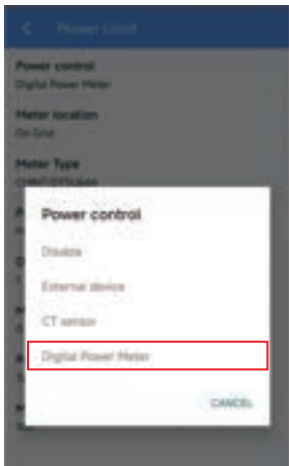

Figure 4-6 Power control
4. Set power control: Go to Console > Power Limit > Power control > Digital Power Meter. (*Figure 4-6*)